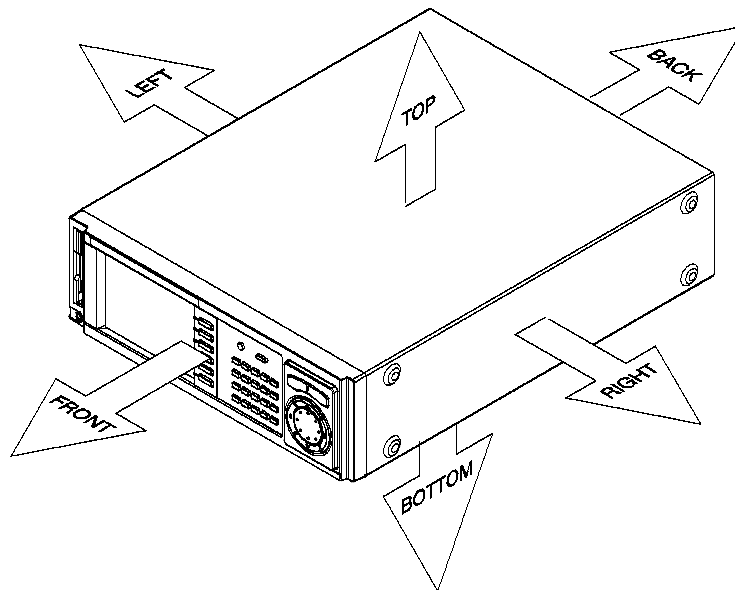

Figure 3: MPEG generator orientation
The procedures in these installation instructions refer to the “front,” “back,” “top,” etc. of the MPEG generator as shown in Figure 3.
- b. The track assembly to be mounted on the left side of the equipment rack (the side of the rack nearest the left side of the MPEG generator (see Figure 3 on page 10)) has a date code that ends with “LH,” for left hand.